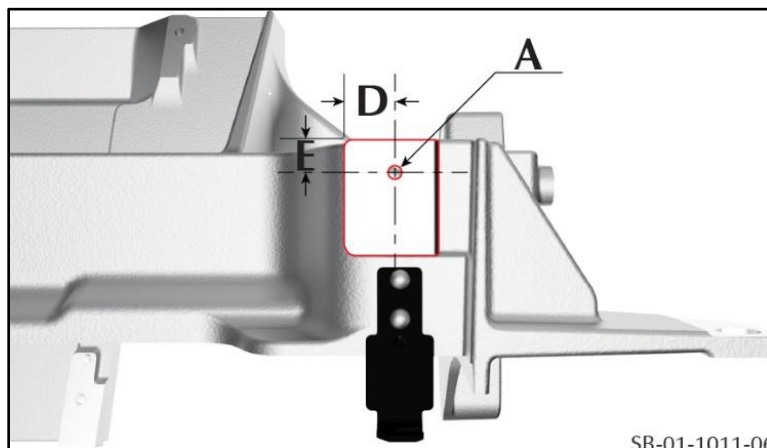

Figure 5
Figure 5 shows the new design of the cross-car beam assembly. The hole (A) that has a thread for the M6 bolt is:
- 17.6 mm from the inboard edge (D)
3. Mark the position of the new hole center with a center punch and hammer (refer to the dimensions from Figure 5).